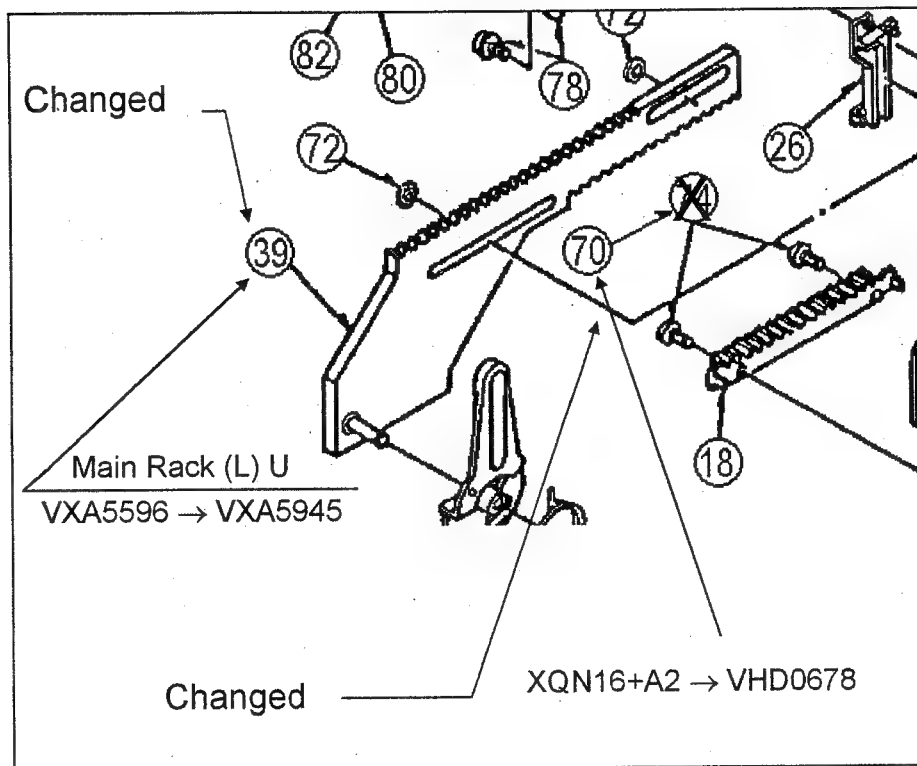

Fig. 1
1). The fixing screws for ML Detect P.C. Board and Cassette Holder Plate is changed from XQN16+A2 to VHD0678 and lock tight adhesive is coated to 8 portions as shown in figures 1, 3 and 4.
2). The Intermediate Gear and Main Rack (L) Unit is changed as shown in figures 1 and 2.